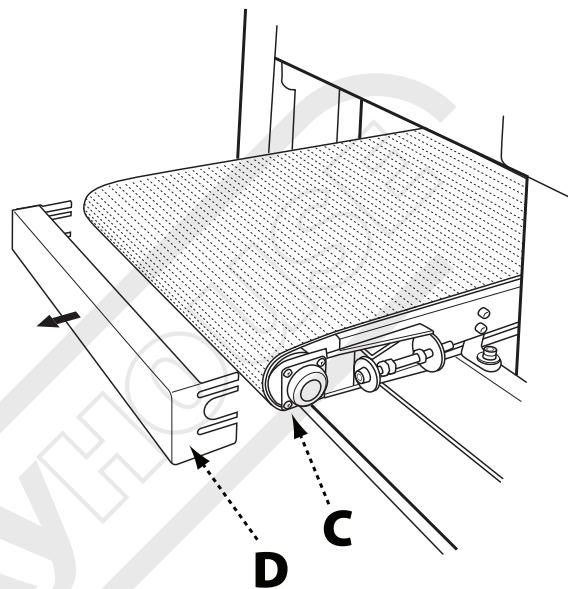
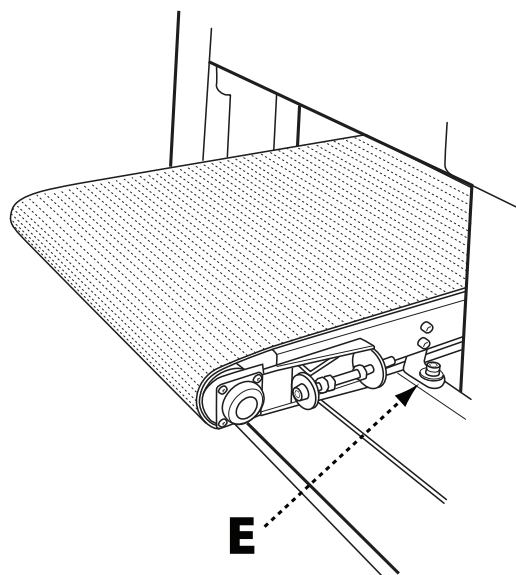

FIG. 9
FIG. 10
3. Loosen but do not remove the eight Phillips head screws (C) holding the bearings to either side of the front of the feed table. See Fig. 9.
4. Remove the front guard (D) by sliding it forward.
5. Locate and remove the four 6mm hex head screws (E) securing the feed table to the base. See Fig. 10.